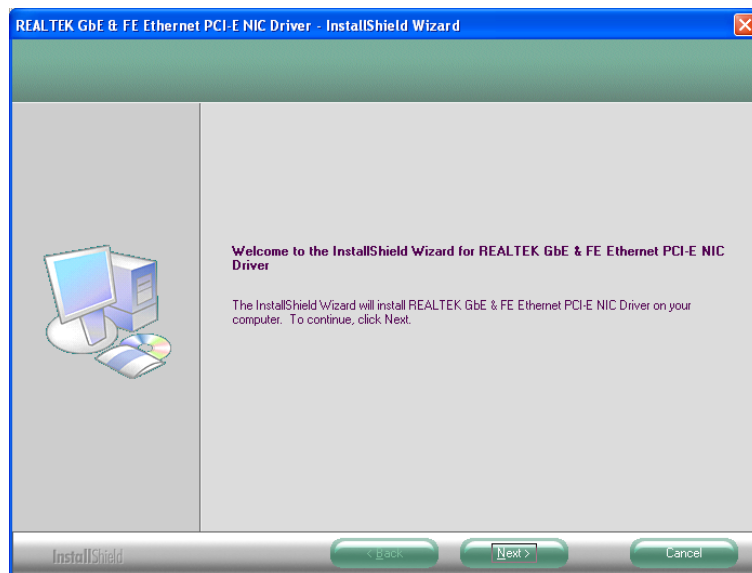

Figure 6-15: LAN Driver Welcome Screen
Step 3: The **Welcome** screen in Figure 6-15 appears.